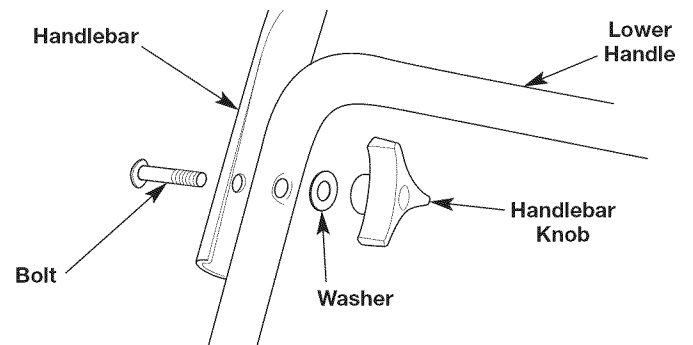

Fig. 2
1. Align the hole in the handlebar with the hole in the lower handle (Fig. 2).
2. Insert a bolt through the aligned holes (Fig. 2).
3. Place a washer onto the bolt (Fig. 2).
4. Place a handlebar knob onto the bolt (Fig. 2).